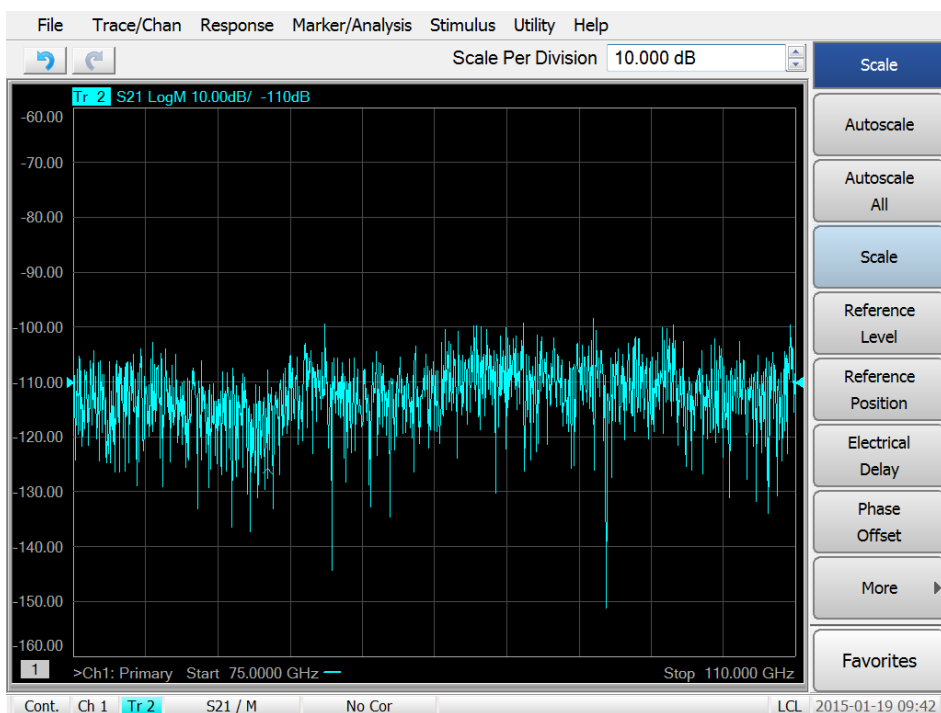

Figure 18:
- The example of typical single sweep dynamic range for WR10 modules is shown below in Figure 18—yours should be similar if the system is working properly.